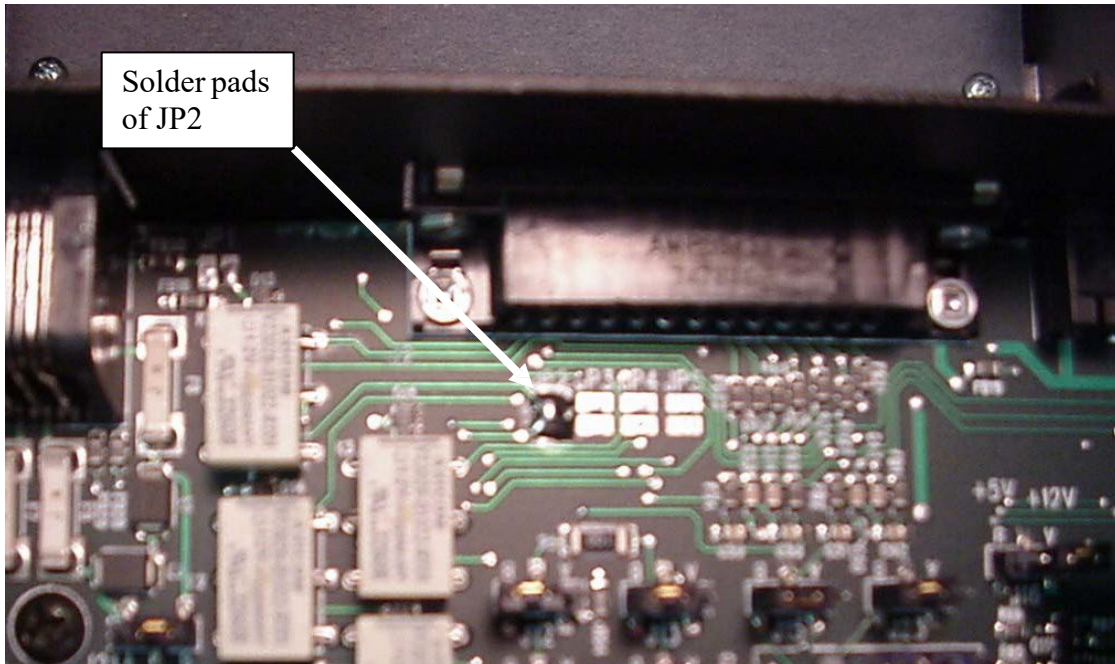

Figure 4 – JP2 location.
- 4. Solder JP 2 closed. See Figure 4.